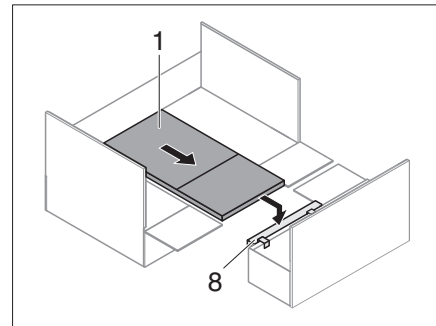

Fig. 217 Table on bedding box cushion
- Attach the bedding box cushion (Fig. 217,8).
- Pull out the hooking table (Fig. 217,1) and position on the hooked-in bedding box cushion (Fig. 217,8).